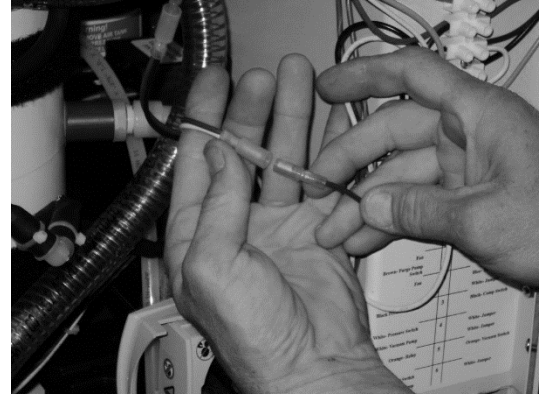

Fig. 6
- 9 Disconnect the bullet connectors from the purge pump wires. (Fig. 6)